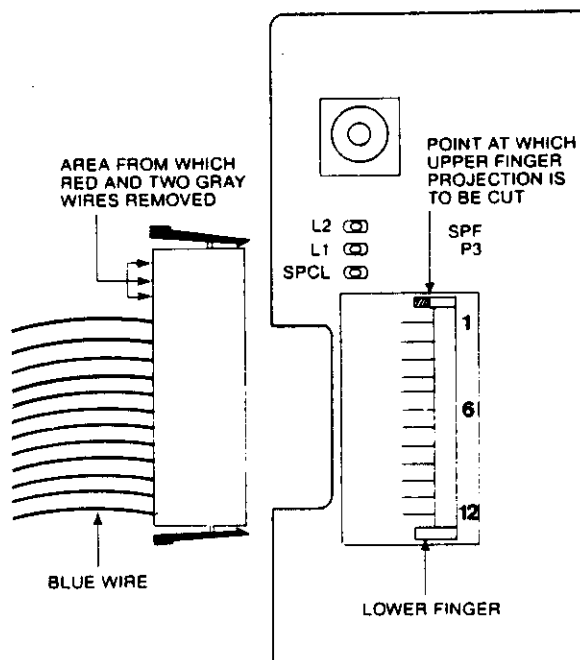

FIGURE 4B — VIEW OF UPPER LEFT CORNER OF EKT PCB (FROM ABOVE) — LINE UP OF EHIU CONNECTOR WITH SPF/P3 CONNECTOR
2.4.1 Cut the red wire and two adjacent gray wires from one female cable connector. See Figure 4B.
2.4.2 Note the two small finger projections at each end of the SPF/P3 male connector. In order for the fifteen pin female connector to be connected, it is necessary that the upper finger (see Figure 4B) be cut and removed. Using a pair of diagonal cutters, cut the upper finger as close to the SPF/P3 connector as possible without damaging the connector or its pins.
2.4.5 Line up the fifteen pin female plug, with the red and two adjacent gray wires cut off, with the twelve pin male SPF/P3 connector as shown in **Figure 4B**. The outside blue wire should be opposite the twelfth pin and the portion of the female plug from which the three wires were cut should extend beyond the twelve pins of the SPF/P3 connector.